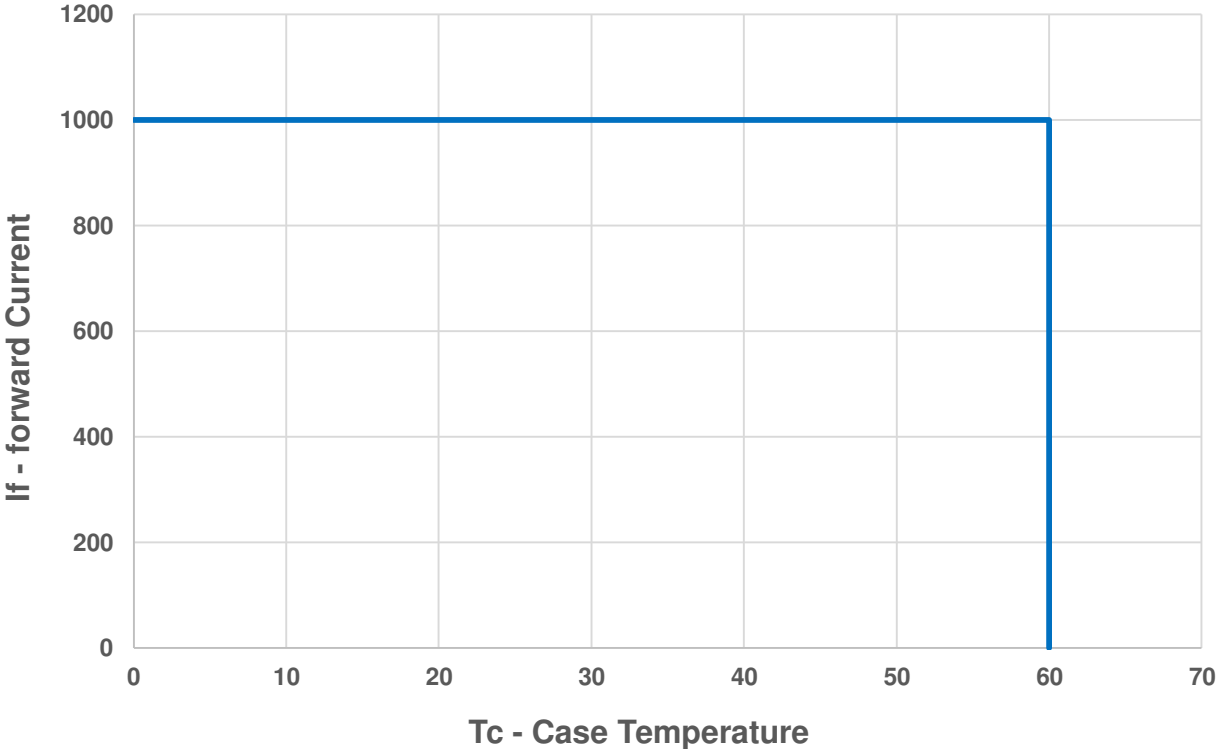

Figure 11: Maximum forward current vs. case temperature
1. Maximum DC forward current is determined by the overall thermal resistance and ambient temperature. Follow the curves in Figure 11 for current derating.
Notes for Figure 11: